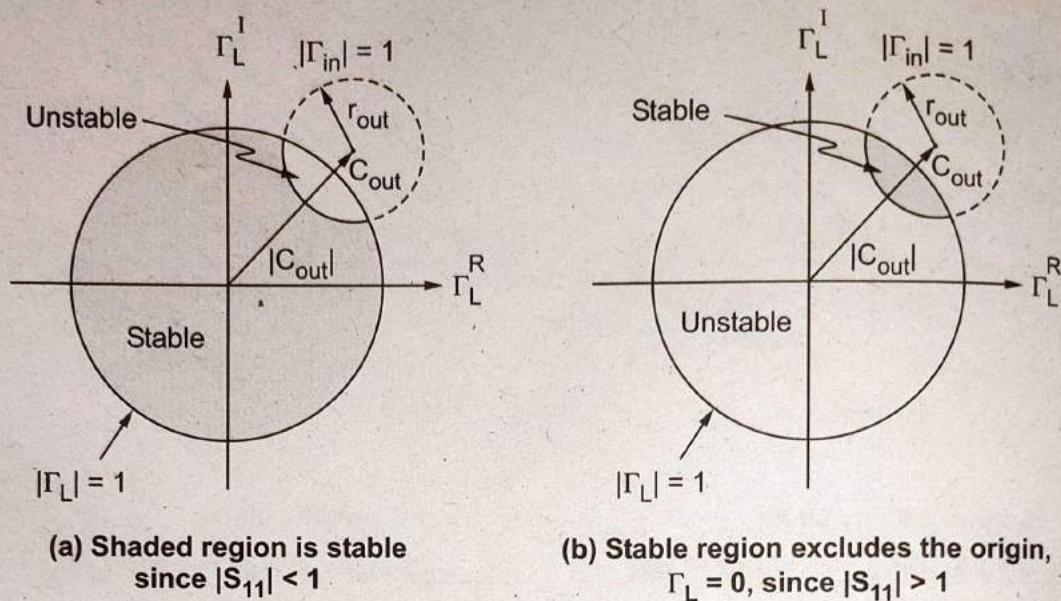

Fig. 5.6.6 Output stability circles denoting stable and unstable regions
- If  $\Gamma_L = 0$ , then  $|\Gamma_{in}| = |S_{11}|$  and two cases have to be differentiated depending on  $|S_{11}| < 1$  or  $|S_{11}| > 1$ . In this case, the only stable region is shaded domain between output stability circle  $|\Gamma_{in}| = 1$  and  $|\Gamma_L| = 1$  circle, represented in Fig. 5.6.6.